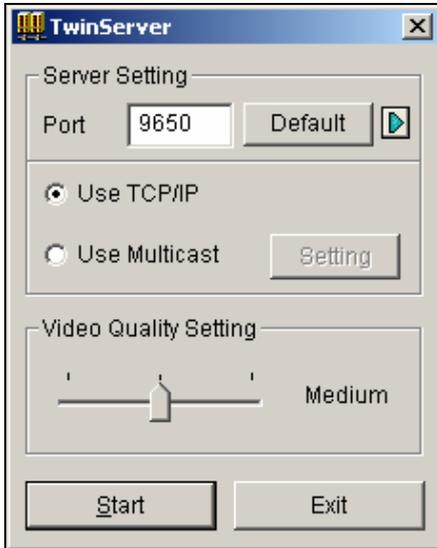

Figure 10-6 *TwinServer Settings*
3. Keep the server port in default, or it should match the TwinServer port. See Figure 10-6.